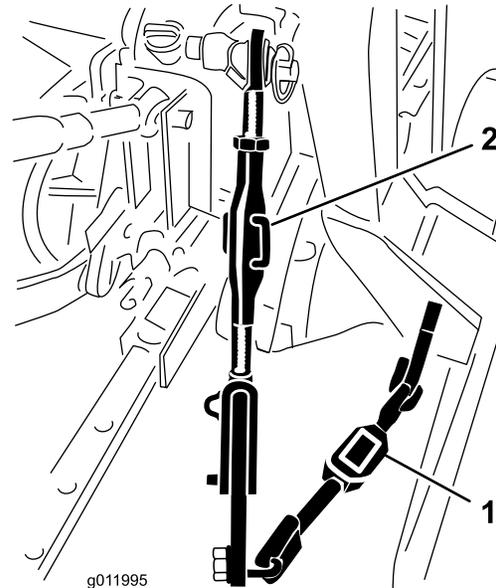

Figure 7
1. Adjust the lower links inboard until they contact the blower mounting plates (Figure 7).
2. Turn the adjustable-link body (if provided) to raise or lower the link arm until the blower is leveled from side to side (Figure 7).